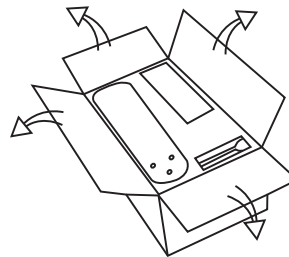

Fig. 1
- Unpack and inspect carefully to make sure all parts are included and not damaged. Lay all pieces out on a working space (Fig. 1).